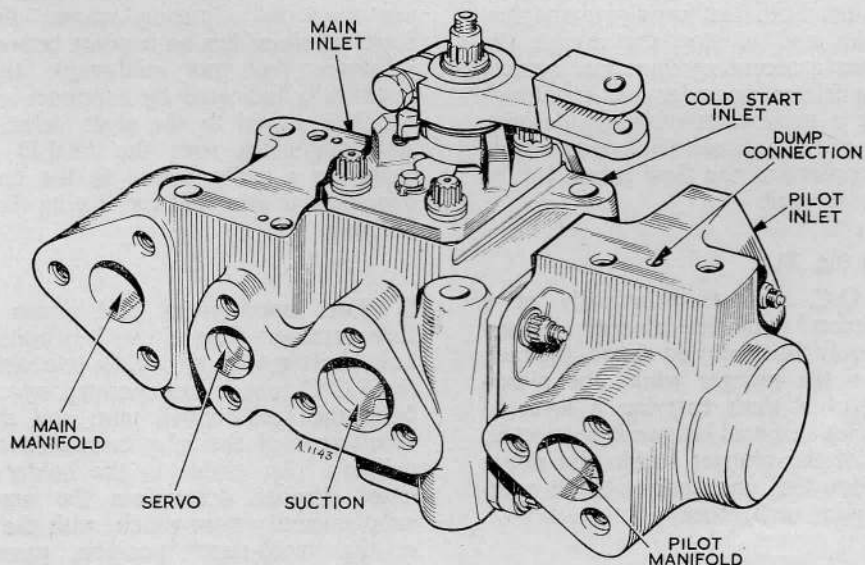

Fig. 1. External view of shut-off cock
1. The high pressure (H.P.) fuel shut-off cock (S.O.C.) (fig. 1) is installed downstream of the H.P. fuel pump, the fuel control unit,